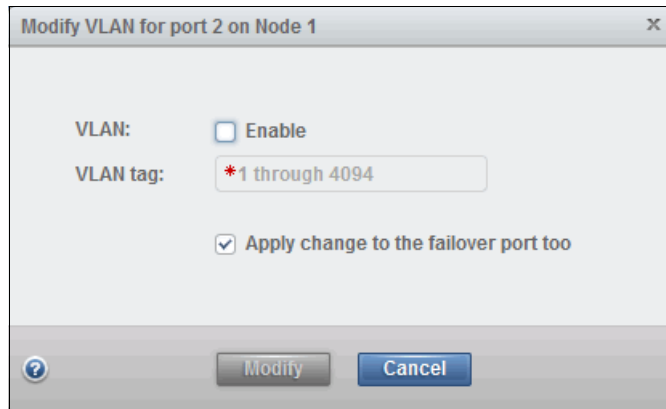

Figure 4-53 Modifying VLAN settings for Port 2 of Node 1
10. The window shown in Figure 4-53 should open. Check **Enable** to turn on VLAN tagging and set the tag in the box provided. It is advised that the failover port belong to the same VLAN, so leave this box selected. Click **Modify** to confirm.